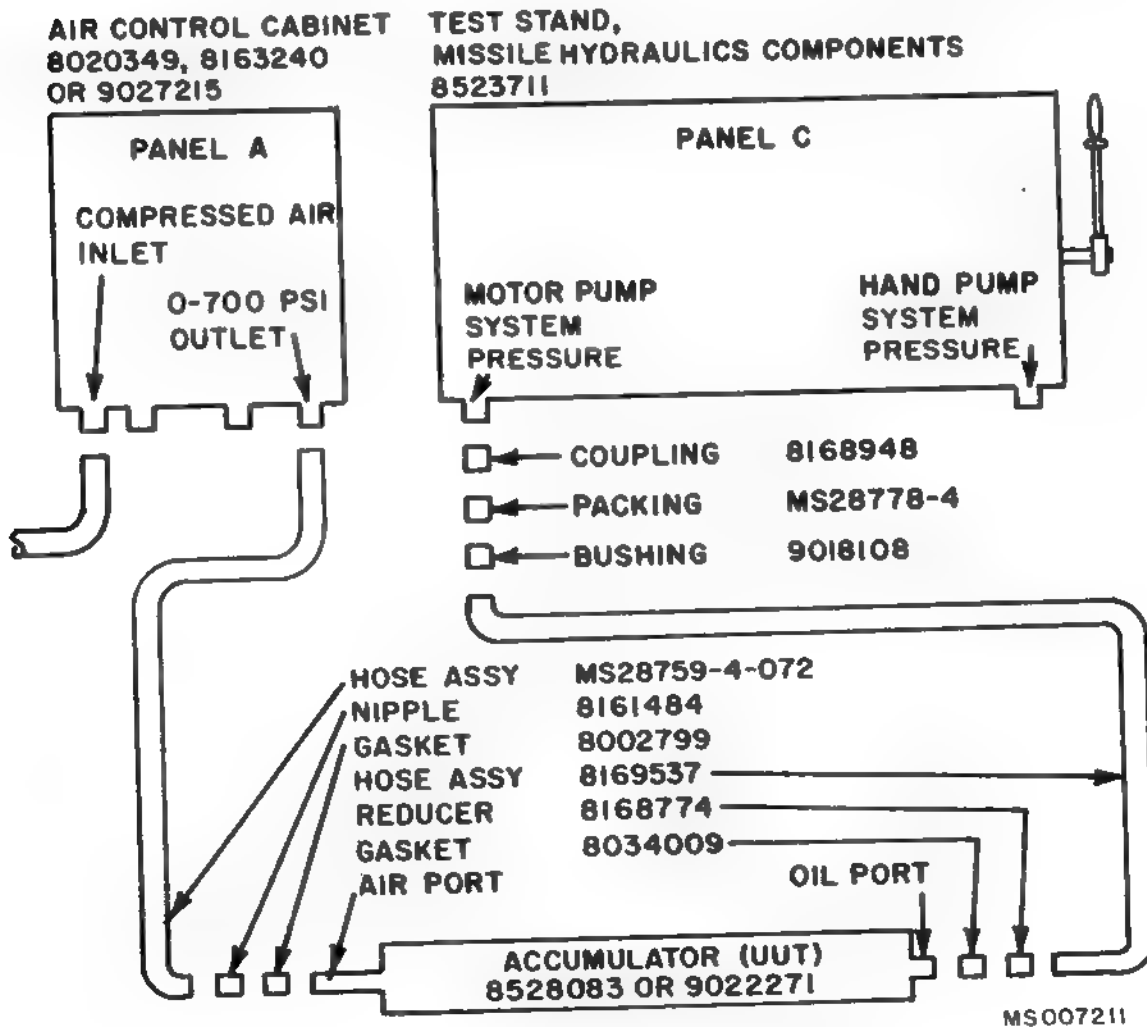

Figure 172.4. Oil leak and piston movement test diagram.
- (a) Connect the test equipment to the UUT as indicated in figure 172.4.